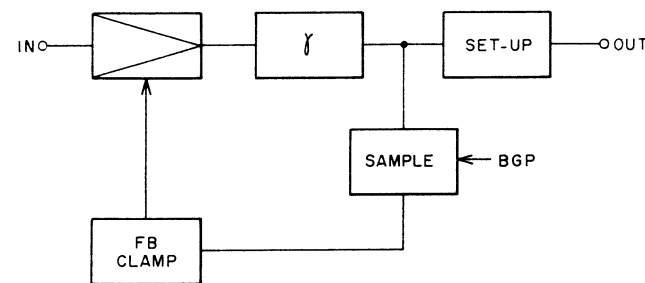

Fig. 25
Fig. 25 is the block diagram of the process circuit. The signal supplied to pin ③ is first passed through the base grounded amp (TR1) and then subjected to gamma correction with voltages made available by R46, R47 and R48 being applied to the bases of TR2, TR3 and TR4, respectively. (See Fig. 25) Subsequently, the signal taken out via EF (TR5) has its black mask portion sampled and held by TR6 (or the blanking portion sampled and held by CP-1 in the case of the red or blue channel), and the output is applied to IC12 (feedback clamp circuit) to keep constant the DC level of signals delivered from the base grounded amp (TR1). The feature of this circuit is that the  $\gamma$  point can be shifted by changing the DC level.